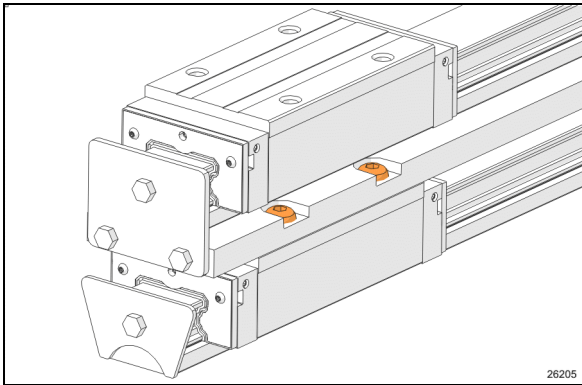

FIGURE 48: BEARING CARRIAGE MOUNTING SCREWS
6. Turn the assembly upside down to access and remove the bearing mounting screws (Figure 48).